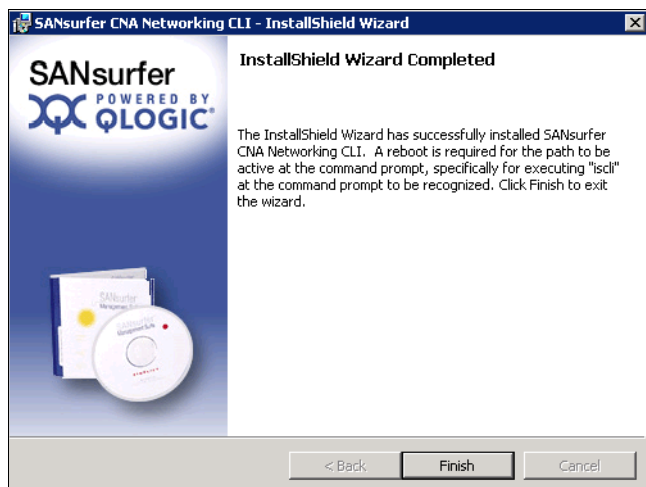

Figure 7-77 Completion window
6. After the SANsurfer CNA Networking CLI installs as noted by the InstallShield Wizard Completed panel (Figure 7-77), click **Finish**.